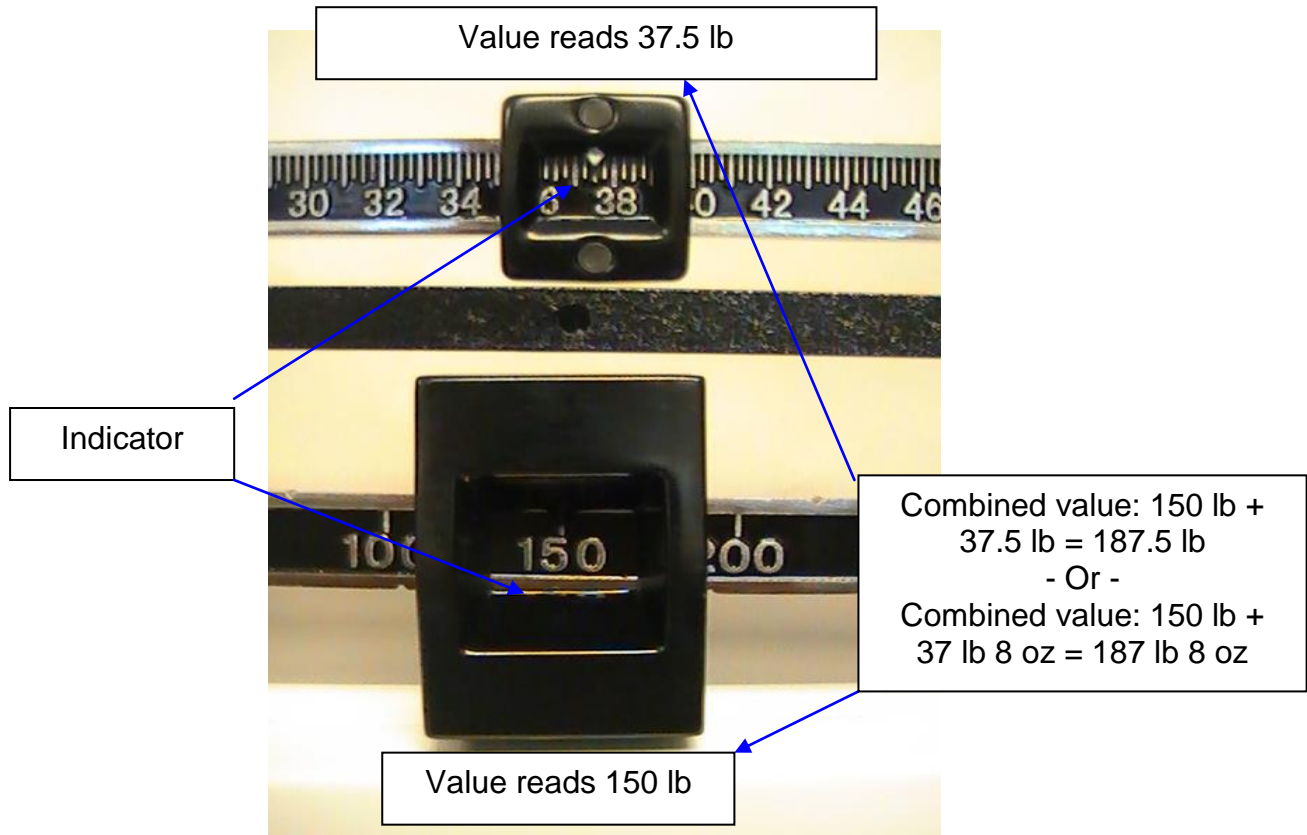

Figure 13
7. Add the indicated reading of the small poise value to the indicated reading of the large poise value. The total amount is the patient’s weight. (see Figures 13 and 14 on page 15)